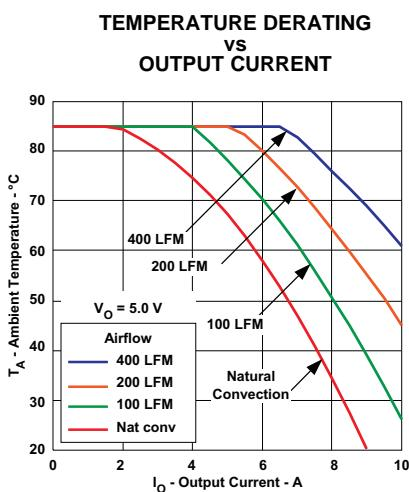
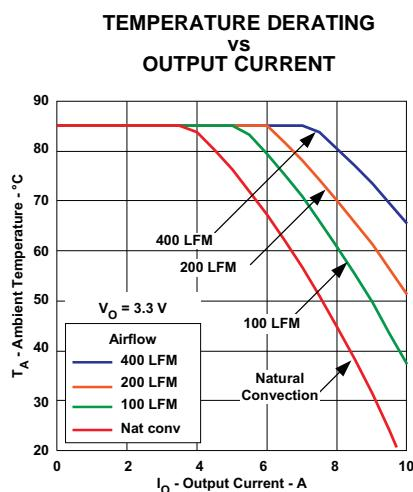
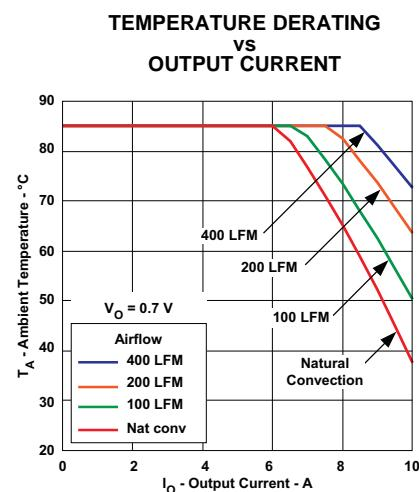

Figure 4.
Figure 5.
Figure 6.
- (2) The temperature derating curves represent the conditions at which internal components are at or below the manufacturer's maximum operating temperatures. Derating limits apply to modules soldered directly to a 100 mm x 100 mm double-sided PCB with 1 oz. copper. Applies to Figure 4, Figure 5, Figure 6.